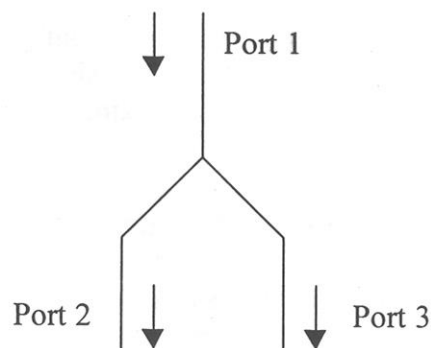

Figure 2: Schematic of a Y - junction power divider
3. Plot the transmission loss in dB as a function of frequency. Identify a smaller frequency span of about 200 MHz around the minimum transmission loss. In this frequency range, repeat the measurements in smaller frequency steps (steps of 20 MHz) and locate the frequency at which the transmission loss reaches a minimum. This is the resonant frequency f_0 of the resonator as show in figure 2.
Figure 2 shows a matched power divider introduced by Wilkinson. Popularly known also as Wilkinson power divider, it uses an isolation resistor R of value $2Z_0$ between ports 2 and 3. The device is completely matched at all the three ports, and ports 2 and 3 are isolated from each other at the centre frequency (f_0).